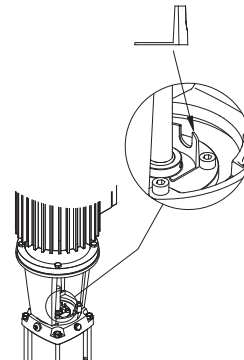

Fig. 19 Coupling adjustment CR(N) 32, 45, 64, 90, 120, and 150
2. Place the plastic adjustment fork under the cartridge seal collar; see fig. 19.